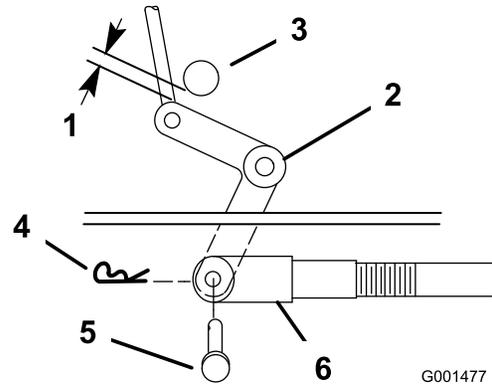
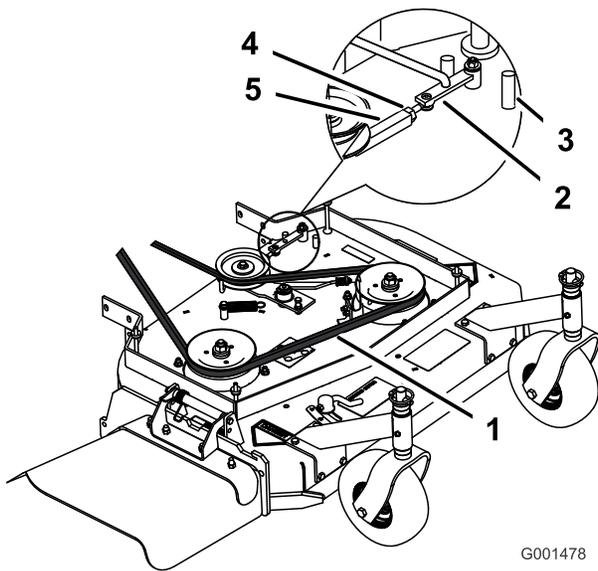

Figure 33
Figure 34
- Check the clearance between the bell crank and the transmission output shaft (Figure 33).
- Rotate the clevis clockwise on the rod to increase the clearance; rotate it counterclockwise to decrease it (Figure 33).
Note: If the assist arm does not contact the front stop on the mower deck (Figure 34 or Figure 35), adjust the clevis to bring the bell crank closer to the transmission output shaft (Figure 33).